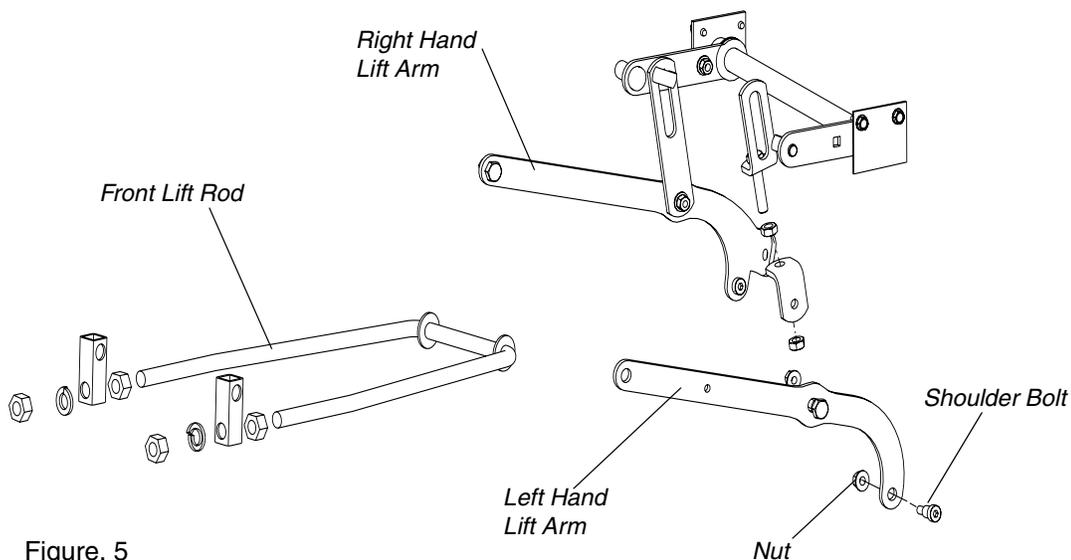

Figure. 5
- Remove the shoulder bolt and nut from the Left Hand Lift Arm and the Right Hand Lift Arm from the deck.(See Figure 5.)
- Shift the deck forward until the Front Lift Rod is free and you are able to remove the deck. (See Figure 5.)